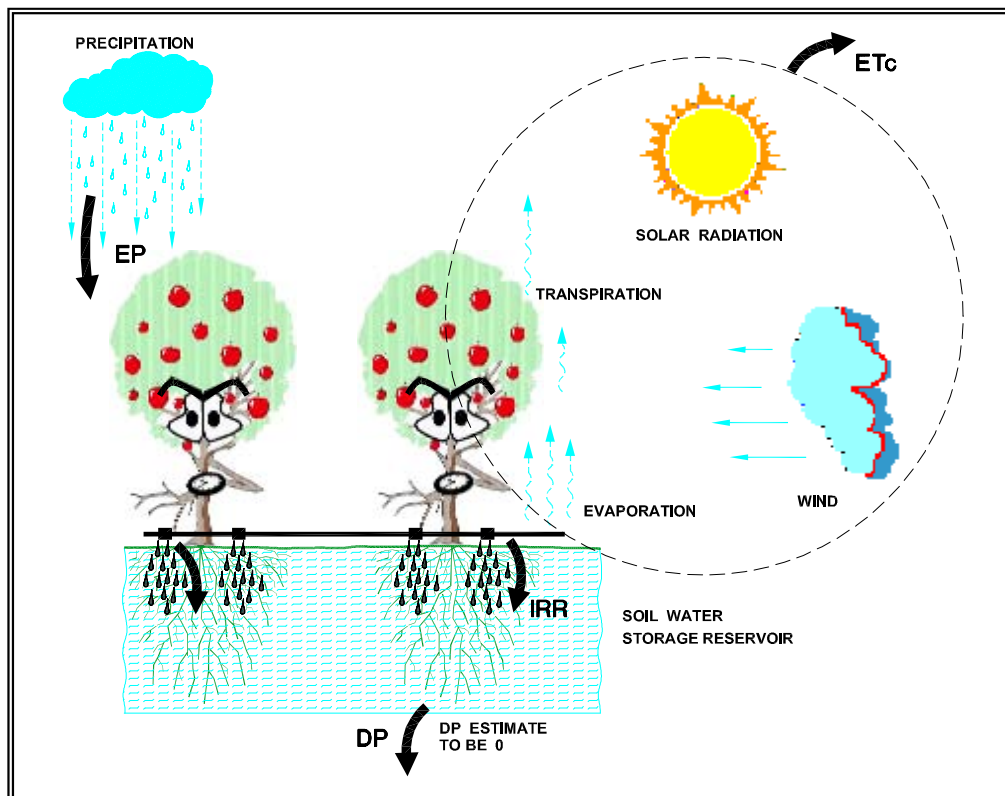

Figure 1 Crop Water Balance
- 2 The **water budget method** can be used for row crops, such as vegetables, strawberries or any crop that is spaced close enough together so that the system is irrigating the entire field. If the plants or rows are spaced far apart so that portions of the field are not irrigated, then the plant water requirement method will be a better approach. Figure 1 shows the schematics for water budget method.
Using a water budget to schedule trickle irrigation systems is similar to balancing a chequebook. The plant's soil water storage reservoir can be considered as a bank. This reservoir can hold a limited amount of water that is useful for the crop. Adding excessive water to the soil reservoir will mean a loss of water due to deep percolation or runoff. The crop evapotranspiration ( $ET_c$ ), or the crop water use, is the daily withdrawal from the bank. The bank is replenished with irrigation or rainfall. Figure 1 schematically shows the crop water balance parameters. ***This method should only be used with row crops that are spaced close together.***